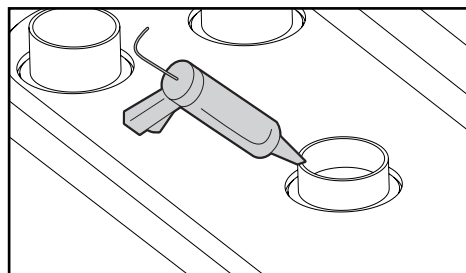

FIGURE 2. Apply construction adhesive to bathtub feet. (Above floor rough-in feet shown)
- Shower base feet must be glued to subfloor with construction adhesive (Fig 2 and 3). Unless using a floor leveling compound.